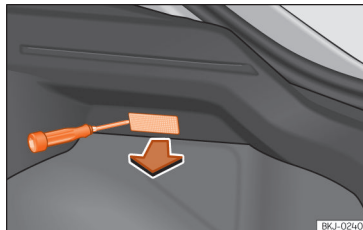

Fig. 167 Boot light.
- Extract the bulb by pressing on its inside edge using the flat side of a screwdriver >>> Fig. 167.